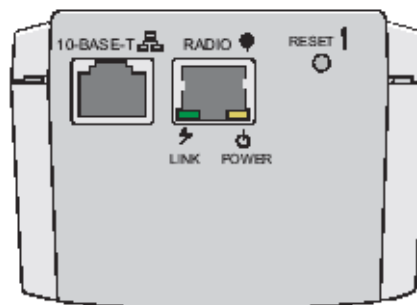

Figure 2-7: Indoor Unit Top Panel
3. Connect the Indoor-to-Outdoor cable to the Radio connector, located on the top panel of the indoor unit shown in Figure 2-7. The Indoor-to-Outdoor cable should be connected to the unit before the unit is connected to the mains power.
To verify proper operation, check the LED indicators located on the top panel of the indoor unit as shown in Figure 2-7, and as described in Table 2-3.